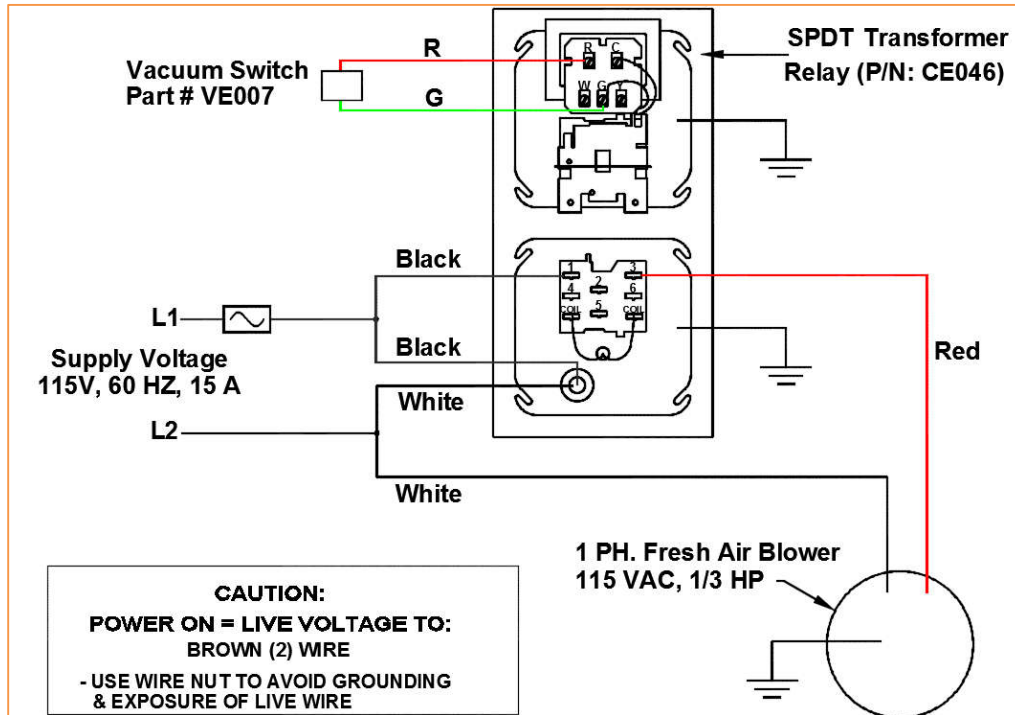

Figure 41: Fresh Air Blower Connection Diagram
1. Mount the Vacuum Switch and make the connections to the Blower as required. (See Figure 41 for details)